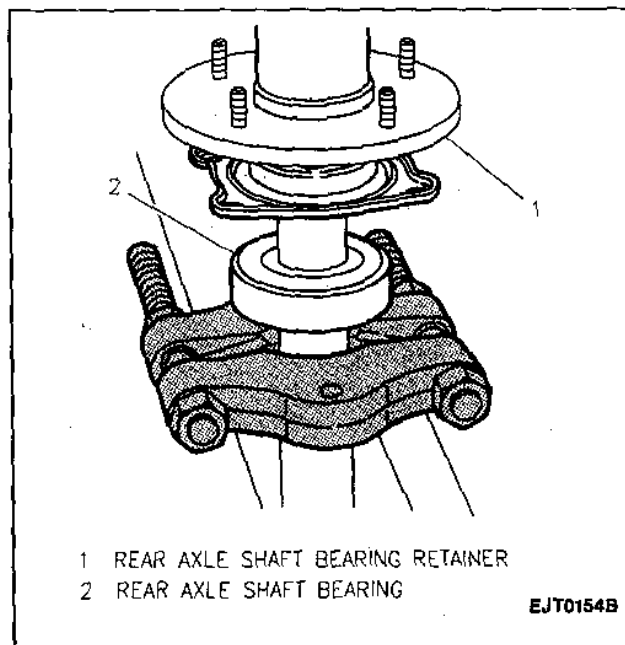

Figure 15—Installing Rear Axle Shaft Bearing
4. Rear axle shaft bearing onto the rear axle shaft using the J 22912-01 and a hydraulic press. With the concave side facing away from the rear axle shaft bearing, place the J 22912-01 on the rear axle shaft below the rear axle shaft bearing. Then place the rear axle shaft in a hydraulic press and slowly press the rear axle shaft bearing to its original position behind the rear axle shaft bearing retainer (Figure 15).